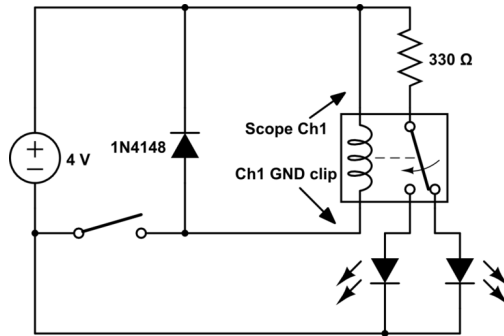

Figure 1: A relay controlled by a push button switch.
- Using a **FLOATING** DC power supply (your HP/Agilent Bench power supply with current limit set to 150 mA) and a push button switch, set up the circuit in figure 1.